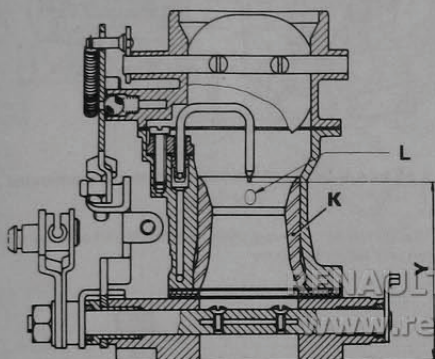

Fig. 3.12 Accelerator pump delivery tube setting – Zenith carburettor (Sec 17)
- 13 Also make sure that the jet of fuel that flows from the tube strikes the diffuser in the position shown in Fig. 3.12. Again bend the tube slightly as required.